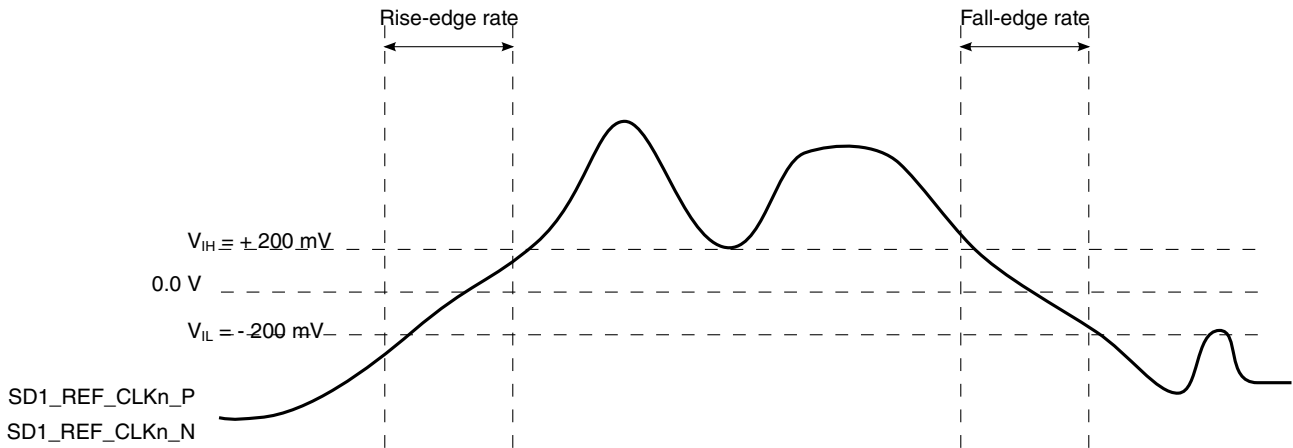

Figure 77. Differential measurement points for rise and fall time
within a differential pair. There is only one signal trace curve in a differential waveform. The voltage represented in the differential waveform is not referenced to ground. See Figure 77 as an example for differential waveform.
- Measured from -200 mV to +200 mV on the differential waveform (derived from SD1_REF_CLKn_P minus SD1_REF_CLKn_N). The signal must be monotonic through the measurement region for rise and fall time. The 400 mV measurement window is centered on the differential zero crossing. See Figure 77.